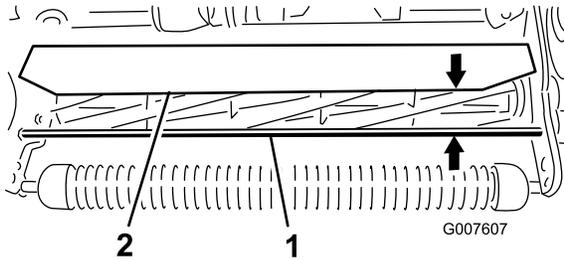

Figure 51
1. Measure the distance from the top of the front support rod to the front lip of the shield at each end of the cutting unit (Figure 51).